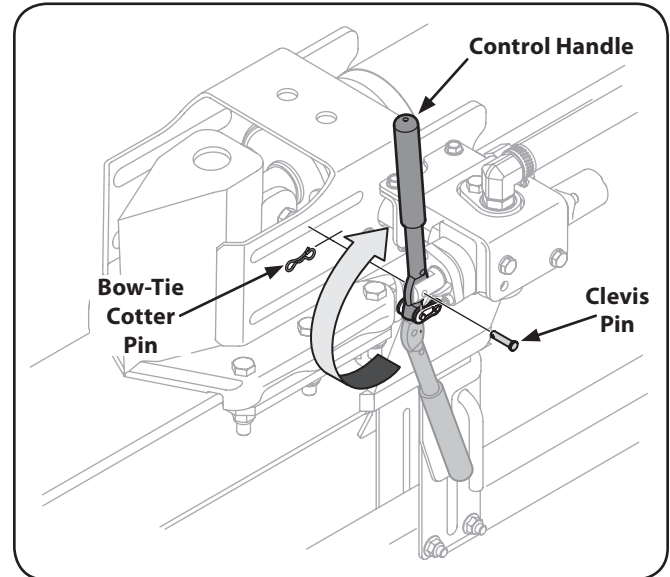

Figure 3-8
22. Remove the clevis pin and bow-tie cotter pin from the control handle. See Fig. 3-8.
23. Rotate the control handle into the operating position and secure with the clevis pin and bow-tie cotter pin removed in step 1. See Fig. 3-8.